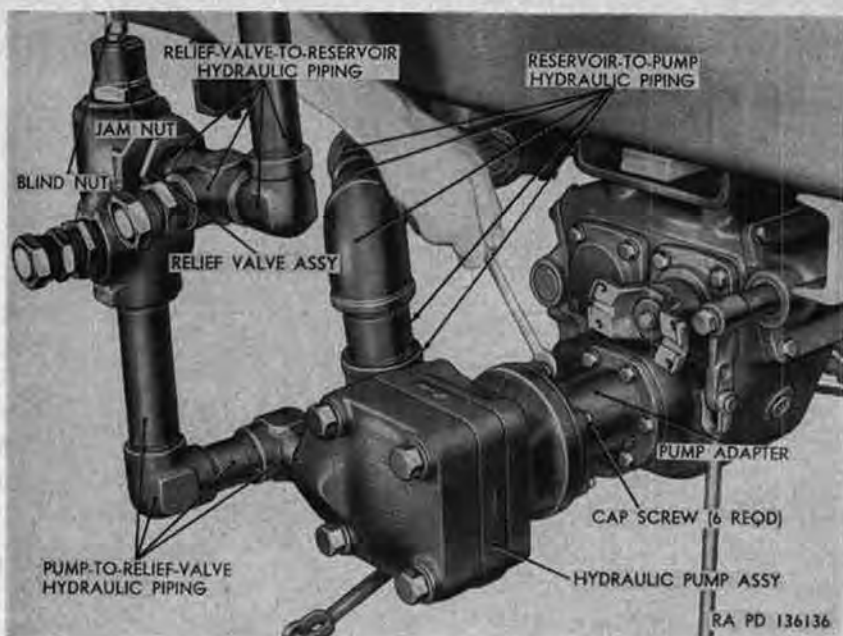

Figure 298. Removing hydraulic pump and relief valve assembly from power divider M62.
- (2) Remove blind nut (fig. 298) from relief-valve adjusting setscrew, and loosen jam nut on setscrew.
- (3) Using a screwdriver, turn setscrew as necessary to obtain the correct relief valve setting of 1,200 psi.
- (4) After correct relief valve setting is obtained, hold setscrew and tighten jam nut. Install blind nut (fig. 298) on setscrew.
c. Removal (fig. 298).
- (1) Remove power divider assembly (par. 271c(2)(a) through (n)).
- (2) Remove six cap screws and lockwashers securing hydraulic pump and relief valve assembly to pump adapter at rear of power divider.
- (3) Remove pump-to-relief-valve hydraulic piping, with hydraulic pump assembly attached, from relief valve.
- (4) Remove relief-valve-to-reservoir hydraulic piping from relief valve.
- (5) Remove reservoir-to-pump hydraulic piping from pump.
- (6) Remove pump-to-relief-valve hydraulic piping from pump.
- d. *Installation* (fig. 298).
- (1) Install pump-to-relief-valve hydraulic piping in pump outlet port.
- (2) Install reservoir-to-pump hydraulic piping in pump inlet port.
- (3) Install relief-valve-to-reservoir hydraulic piping in relief valve output port.
- (4) Install relief valve, with relief-valve-to-reservoir hydraulic piping attached, on pump-to-relief-valve hydraulic piping.
- (5) Position new gasket on pump flange, align key on pump shaft with keyway in hydraulic pump output shaft coupling, and position pump on adapter at rear of power divider. Install six cap screws with lockwashers in holes in adapter and pump flanges, and tighten screws.
- (6) Install power divider assembly (par. 271c(3)(h) through (x)).